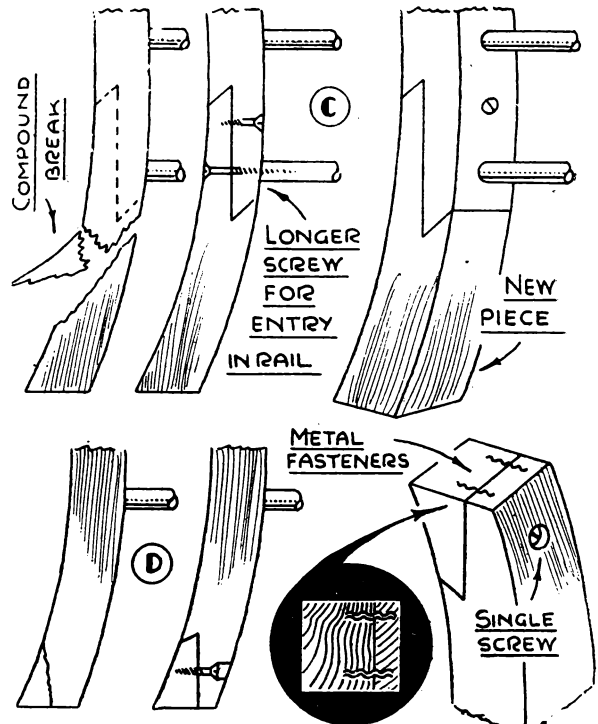

FIG. 2. COMPOUND BREAK AND ITS REPAIR.
**Compound Break.**—This break (C, Fig. 2) is a double one and the only
A very common breakage is indicated at D, Fig. 2. It is generally caused by dragging the chair across the floor. The loose piece is glued back in position and pinned. If lost, a new piece is fitted, as shown. One may use a single screw and two small corrugated metal fasteners. If a glider has to be fixed on the leg, one of the three prongs will serve much in the same way as the fasteners, but it is advisable also to have the part screwed.